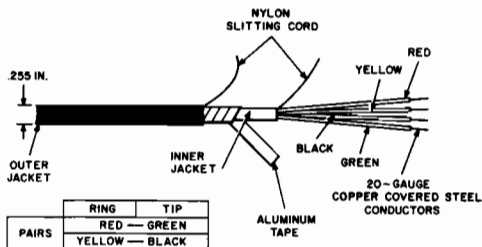

Fig. 1—B Service Wire
2.02 B service wire, shown in Fig. 1, consists of one quad of 20-gauge (AWG) copper covered steel conductors, individually insulated with distinctively colored (red, green, yellow, and black) solid polyethylene. The insulation of the conductors is colored for purpose of identification.